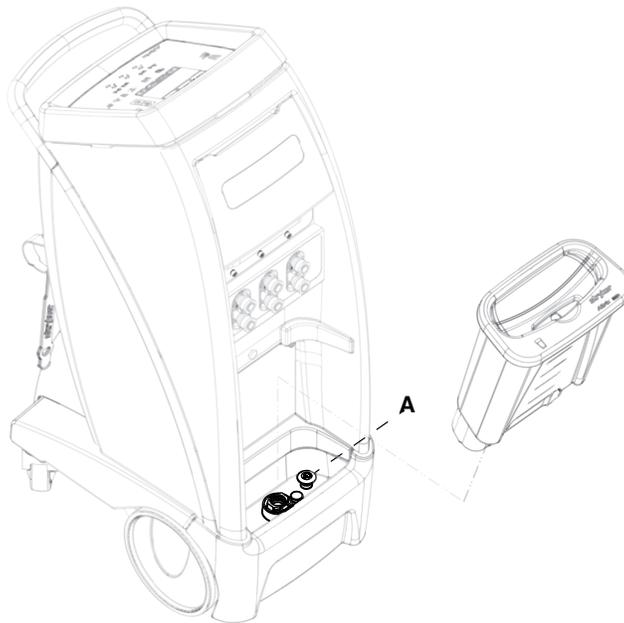

Figure 47 – Drain plug
2. Remove the reservoir and pull up on the controller drain plug (A) to open the drain (Figure 47).